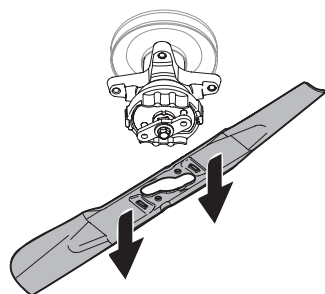

Figure 3
5. When the hole in the center of the blade aligns with the tractor blade retainer, carefully lower the blade. See Figure 3.